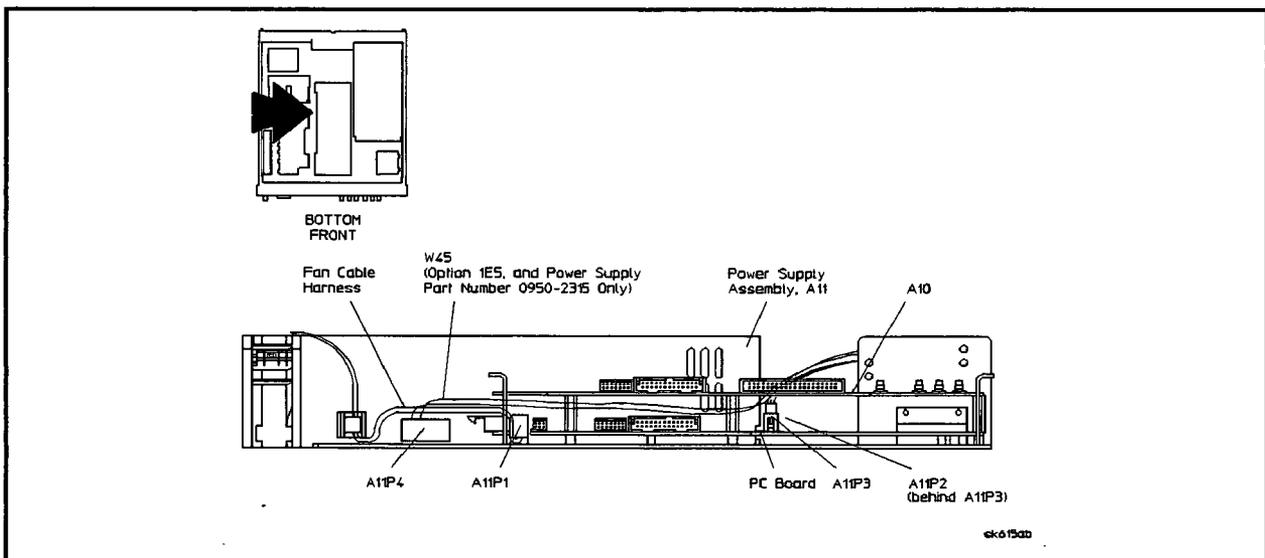

Figure 5-8. Power Supply Cables
3. In the introduction to this chapter, refer to "Multi-wire Cables" and Figure 5-8. Then, disconnect W8 (the dc cable connections) from A11P2 and A11P3 of the power supply assembly. If the unit has option 1E5 and power supply part number 0950-2315, then W45 must be disconnected from A11P4 as well.
4. Disconnect the fan cable harness from the wrap anchor and from connector A11P1 on the side of the power supply. See Figure 5-8. It may be necessary to place the A10 ALC board assembly on the service tangs. Service tangs are the clips that allow pc boards to rest vertically. Refer to the A9 YIG driver board assembly removal procedure.